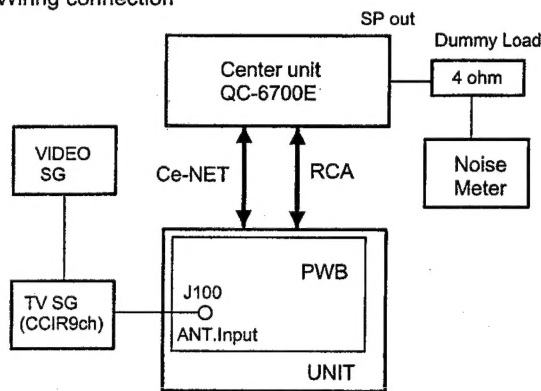

Fig.4
2. Adjust the VR501 so that the display level of the spectrum analyzer becomes 97dB  $\mu$  to test pattern TP101. (Fig.4)